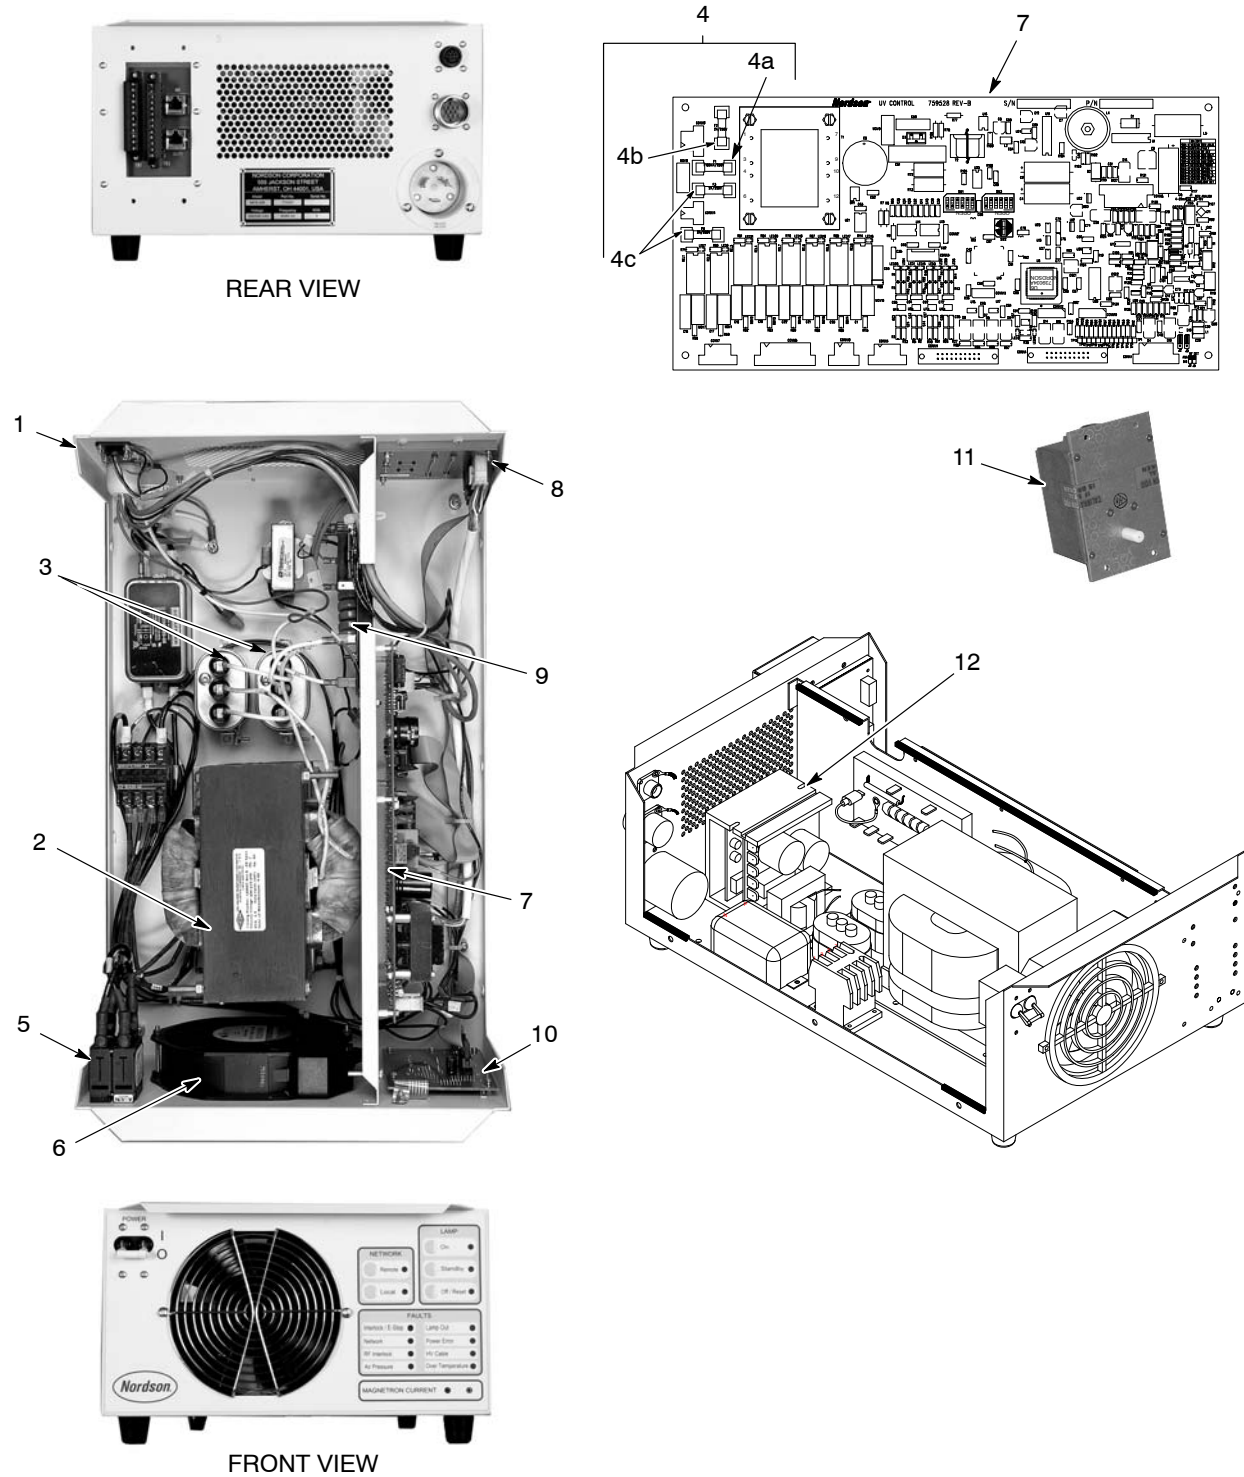

Figure 7-1 CoolWave Power Supply and RF Detector
**NOTE:** If your unit does not start up, disconnect power to the unit then remove the cover and check the fuses. See Figure 7-1 for fuse locations.
See Figure 7-1.